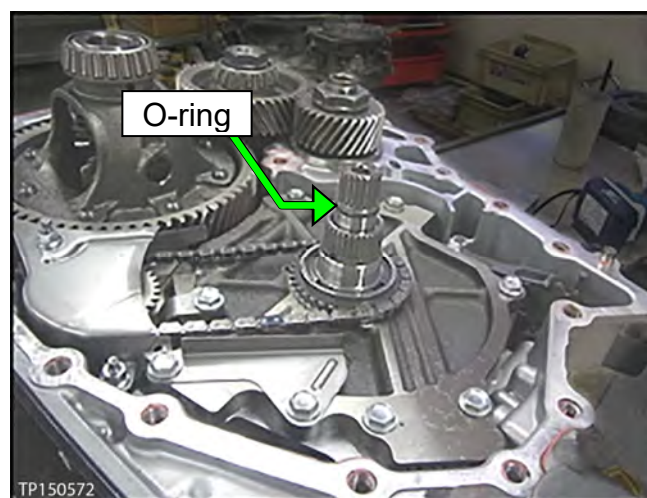

Figure 81
17. Install a new O-ring on the input shaft (see Figure 81).